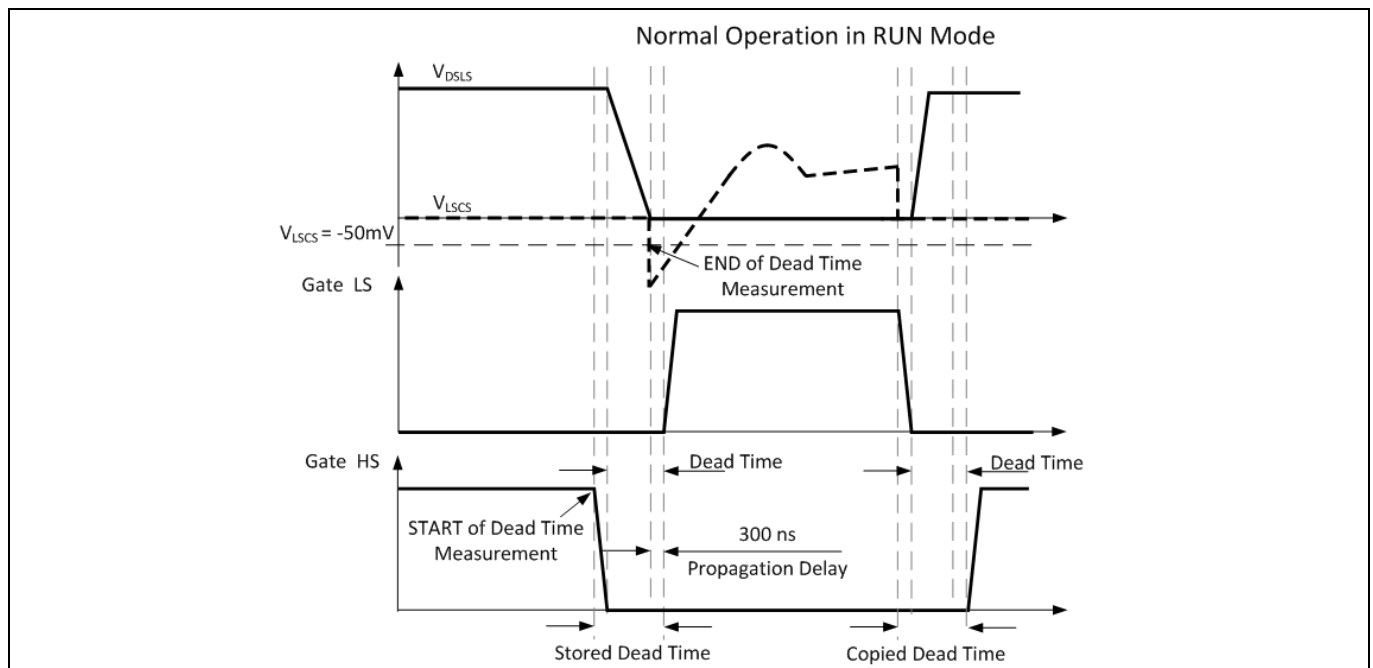

Figure 17 HB Self-Adaptive Dead Time
The dead time between ICL5102HV HB low side (LS) and high side (HS) gate driver turn-on signals is self-adaptive. The typical range of the dead time adjustment is between 250 and 750 ns. The dead time is measured after the HS gate driver is turned off until the voltage at pin LSCS drops below -50 mV. This time is then used for the dead time between LS and HS as shown in the **Figure 17**.